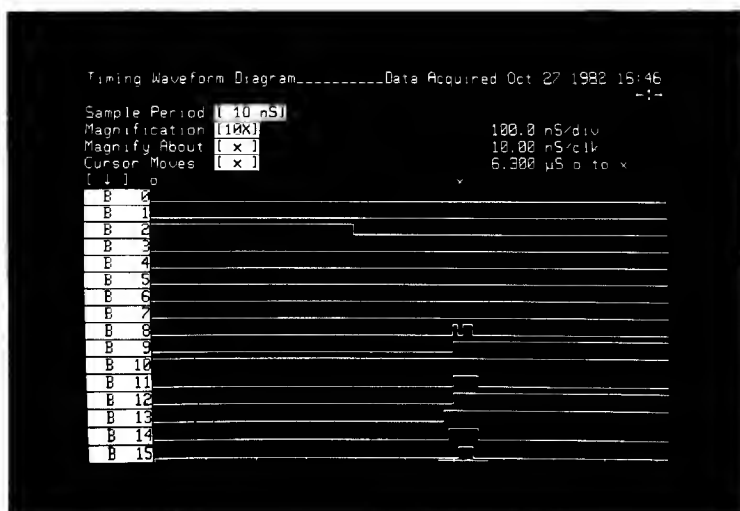

Figure 3-13. Magnification Around "x"
6. Press the NEXT[] key several times to see that magnification of the display occurs around the area in memory you selected by the position of "x". See figure 3-13.